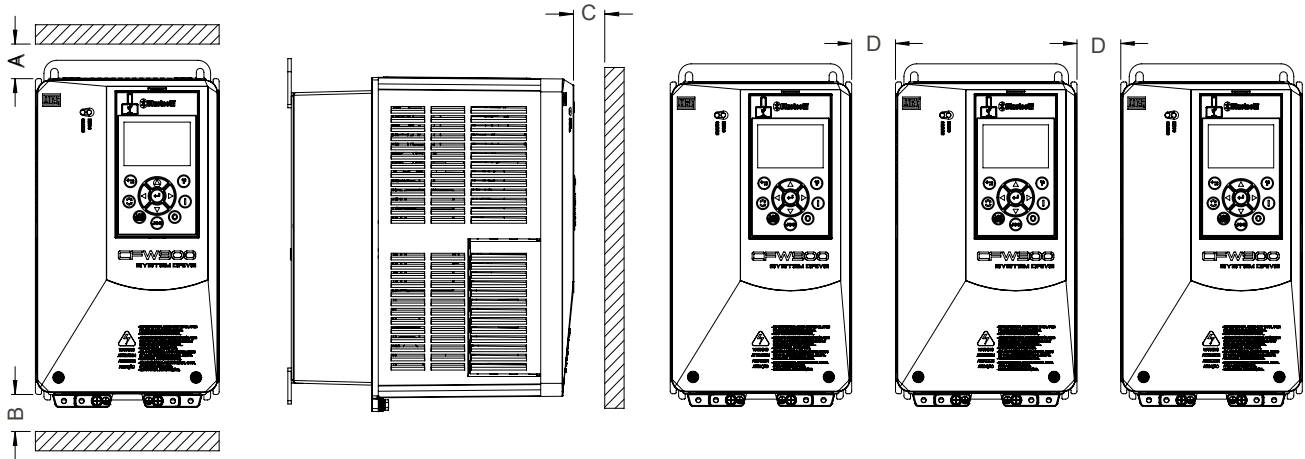

Figure 3.2: Free clearances for ventilation
Minimum mounting clearances requirements for proper cooling air circulation are specified in Figure 3.2 on page 20 and Table 3.3 on page 20.
- When one inverter is installed above another, use the minimum distance A + B, as shown in Figure 3.2 on page 20, and divert the hot air blown by the lower inverter from the upper inverter.